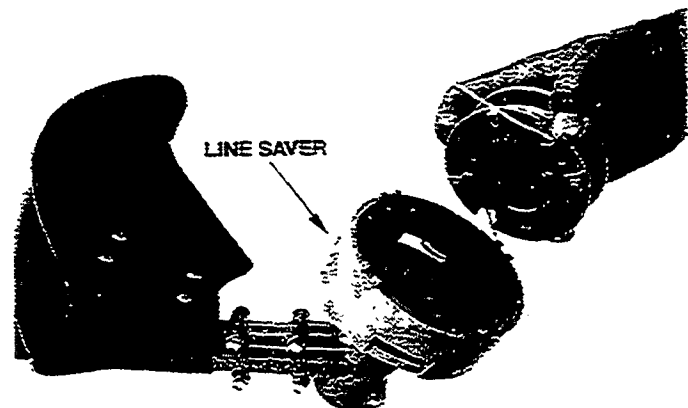

Figure 12
- Once the line is on the spool, hold spool as shown in (**Figure 12**) and insert lines in their respective line-savers and place spool back onto the rotary head.